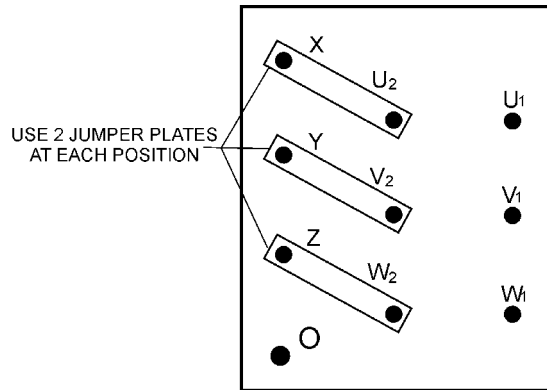

**Figure 22. UVWO Terminal Lugs 1Ø-120V Connections**
3. Connect the load wires to the UVWO terminals as shown in Figure 22.